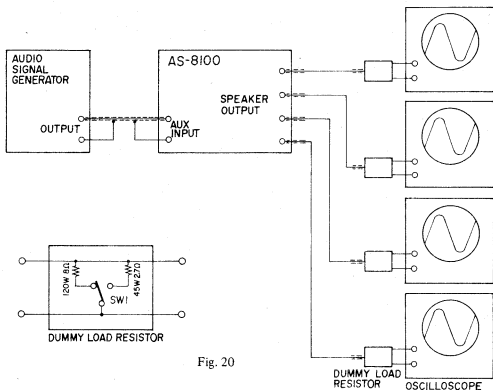

Fig. 20
1. Supply output from the Audio Signal Generator to the various "Aux" output terminals of Model AS-8100. Connect a dummy load resistor equipped with resistor value switch to the various speaker output terminals as shown in Fig. 20 and connect this output terminal to the Oscilloscope input terminal.